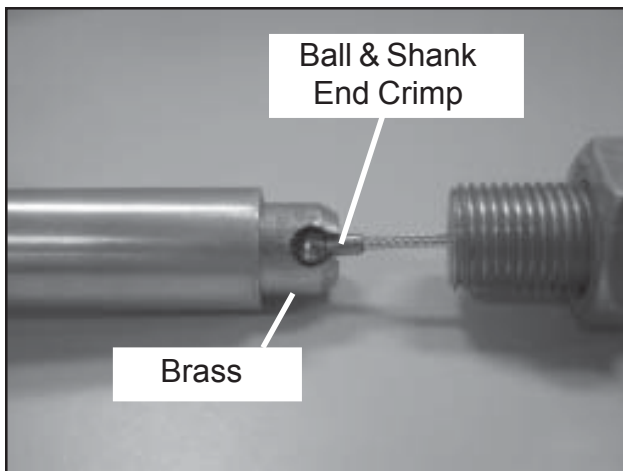

Figure 18 Cable Removal
3. Push button and brass piece through mounting sleeve just enough so cable can be removed, **Figure 18**.
10. Before reinstalling handle assembly make sure 9/16" nut is threaded on cable adjuster. Install cable by putting ball & shank end crimp in brass slot, and push brass back through mounting sleeve **Figure 18**.